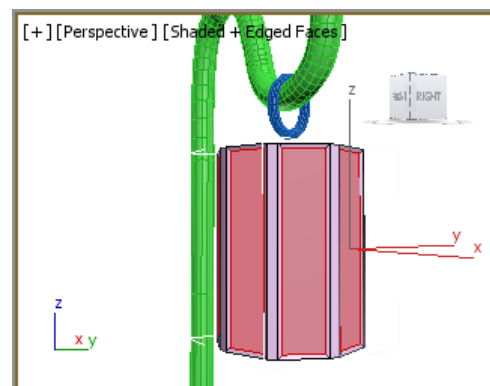

Figure 5-34 The selected polygons beveled
9. In the **Edit Polygons** rollout, choose the **Settings** button on the right of the **Bevel** button; the **Bevel** caddy control is displayed in the viewport. Set the value **-0.01** in the **Bevel-Height** spinner and **-0.02** in the **Bevel-Outline** spinner and then choose the **OK** button to close the caddy control; the selected polygons are beveled, as shown in Figure 5-34.